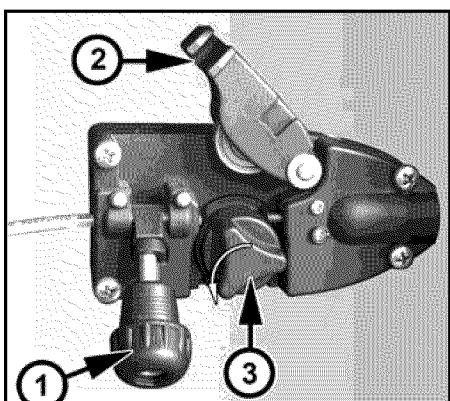
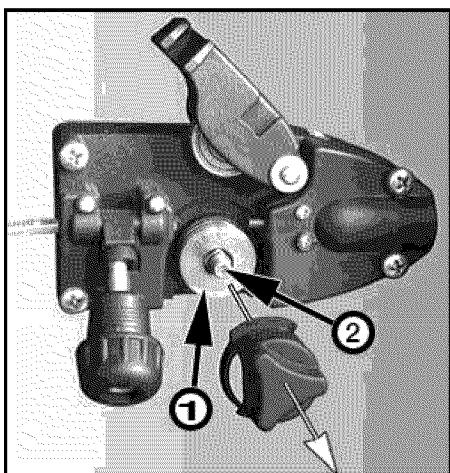

Fig. 2a
Fig. 2b
3. Release the drive tension by loosening and unlatching the Drive Tension Adjusting Knob (Fig. 2a, 1) from the Drive Tension Arm (Fig. 2a, 2). Lift up the Drive Tension Arm to expose the Drive Roller (Fig. 2a, 3).
5. Rotate the Drive Roller Cap (Fig. 2a, 3) counterclockwise and remove it from the Drive Roller (Fig. 2b, 1).
- Roller shaft. (Fig. 2b, 2)